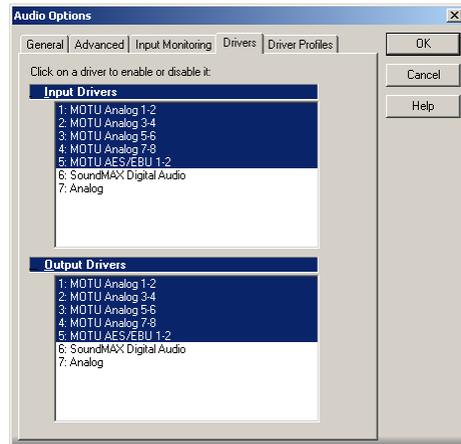

Figure 7-2: Activating the MOTU FireWire Audio driver in SONAR by highlighting inputs and outputs.
- 3 Highlight the MOTU 896 inputs and outputs that you wish to use and unhighlight the ones you don't as shown in Figure 7-2.